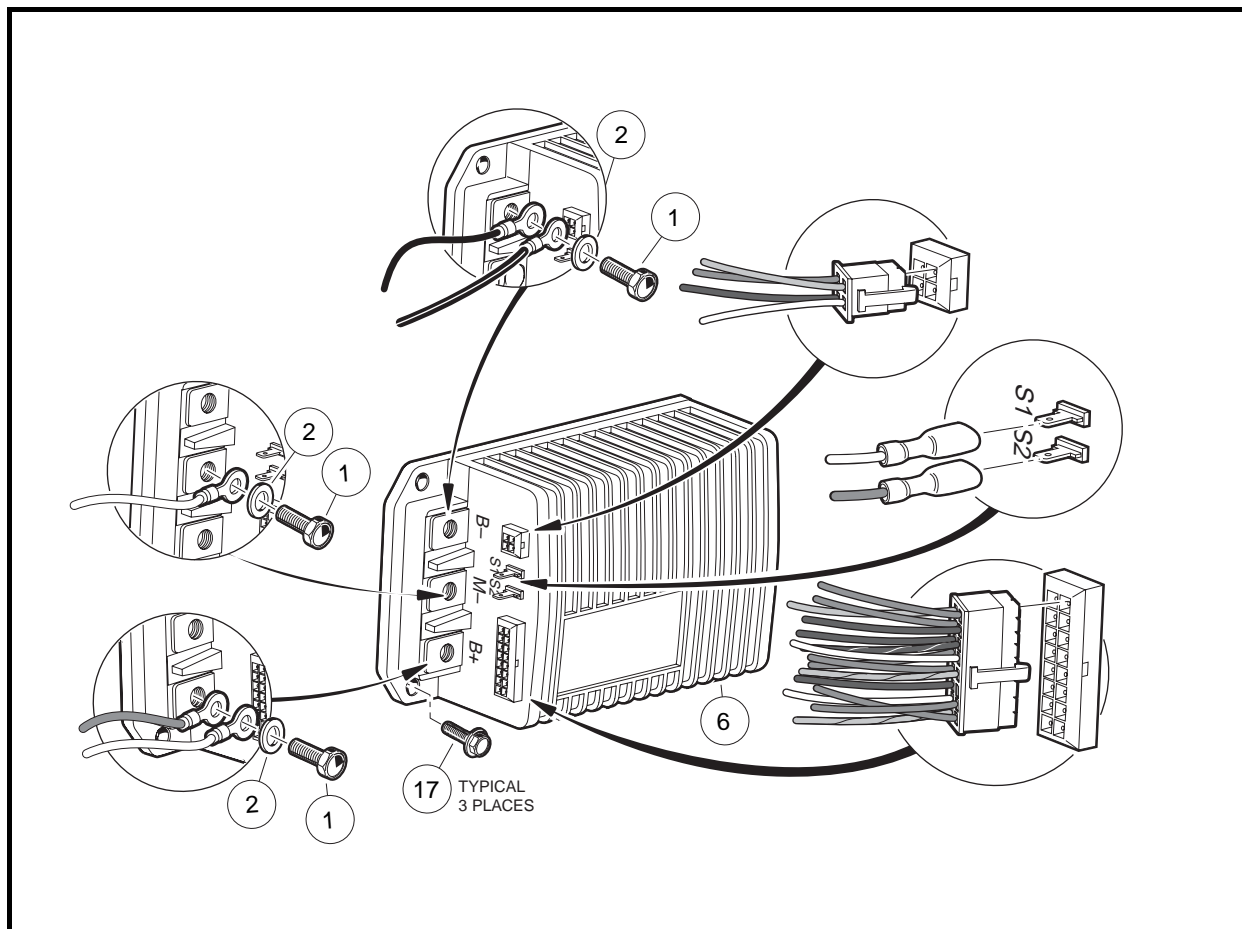

Figure 13-8 Speed Controller
4. Disconnect all wires and multi-pin connectors from the speed controller (**Figure 13-8, Page 13-12**).
- Remove the three self-tapping screws (17) that hold the controller (6) to the component mounting plate and remove the controller from the vehicle.
- Install the three self-tapping screws (17) that hold the controller (6) to the component mounting plate and tighten to 60 in-lb (6.8 N·m) (**Figure 13-8, Page 13-12**).
- Using the wiring diagram, install the multi-pin connectors and all wires as illustrated. **See Wiring Diagrams, Section 11, Page 11-2.** Tighten bolts (1) to 9 ft-lb (12.2 N·m) (**Figure 13-8, Page 13-12**).